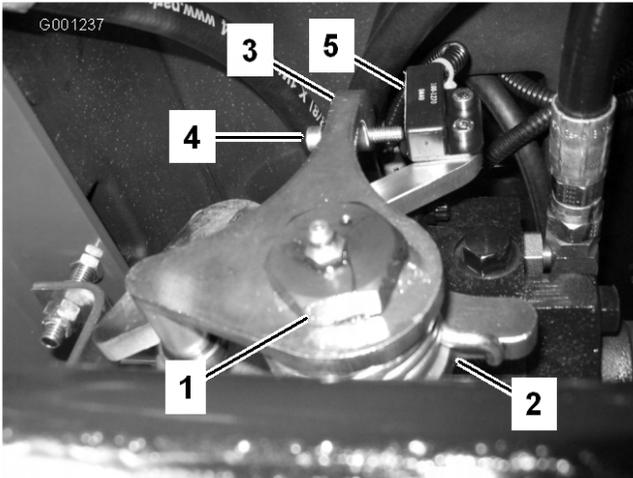

Figure 57
- Loosen the retaining screw on the opposite side of the traction adjustment cam (Figure 57).
- Adjust the screw on the neutral return arm (Figure 57) until the gap between the end of the screw and the switch contact is .090–.120 inch.